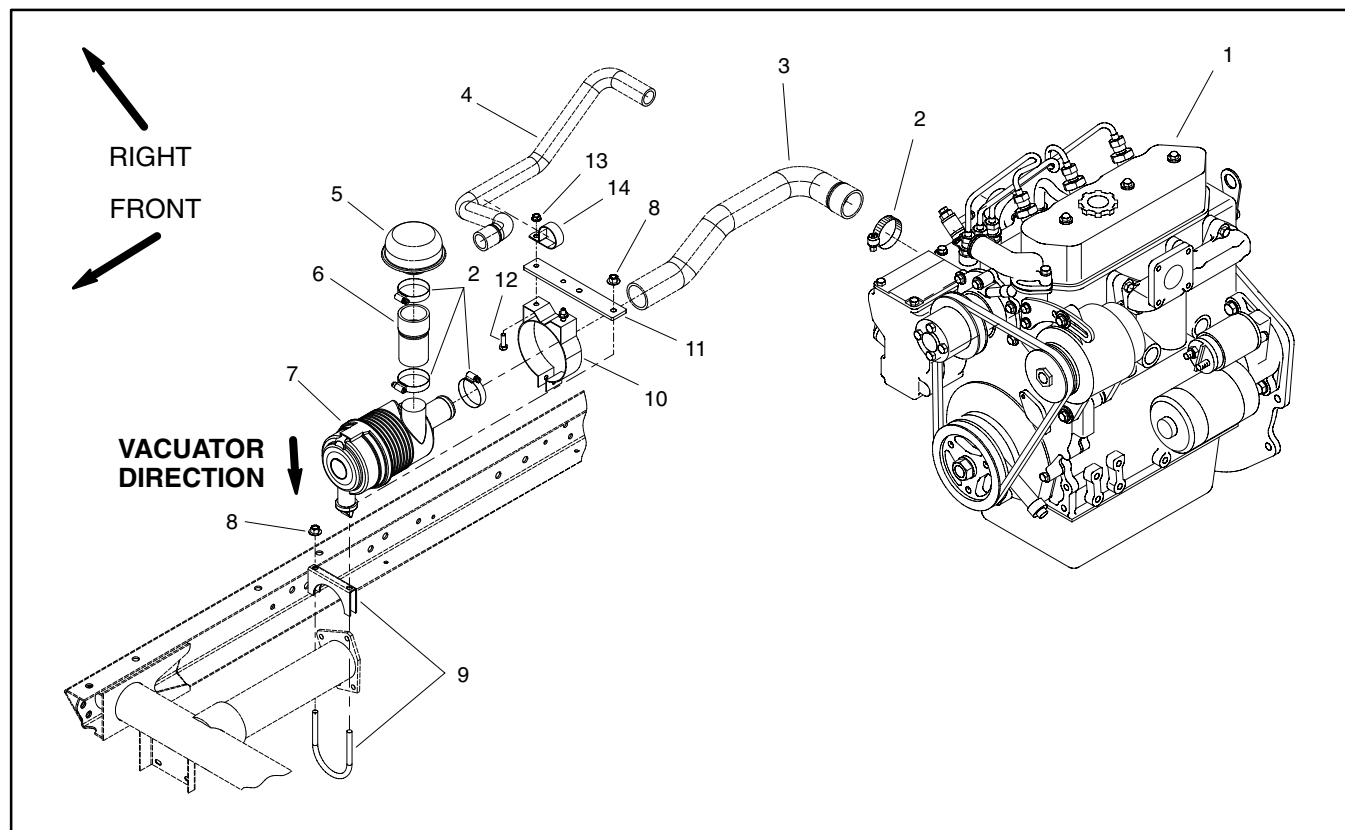

Figure 7
Removal (Fig. 7)
3. Remove air cleaner components as needed using Figure 7 and 8 as guides.
Installation (Fig. 7)
1. Reassemble air cleaner system using Figure 7 and 8 as guides. Air cleaner hose (item 6) and air inlet hood (item 5) should be positioned straight upward. The vacuator valve on the air cleaner assembly should be positioned downward.